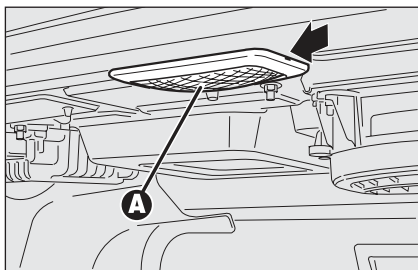

fig. 50
- ☐ remove the light unit **A-fig. 50** levering in the point shown by the arrow;